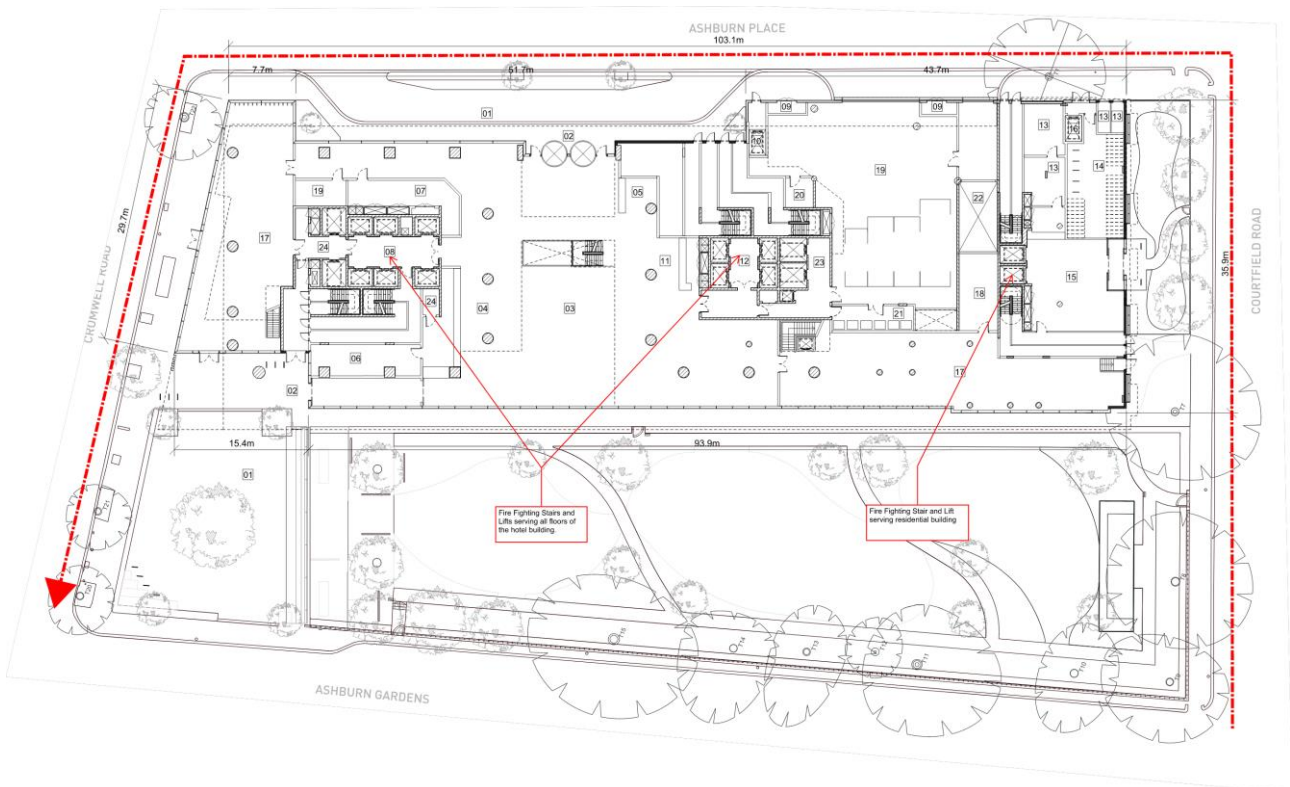

Figure 6: Fire Vehicle Access and Fire Fighting Cores
- One of the lifts will be designed as a fire fighting lift (See Figure 6).